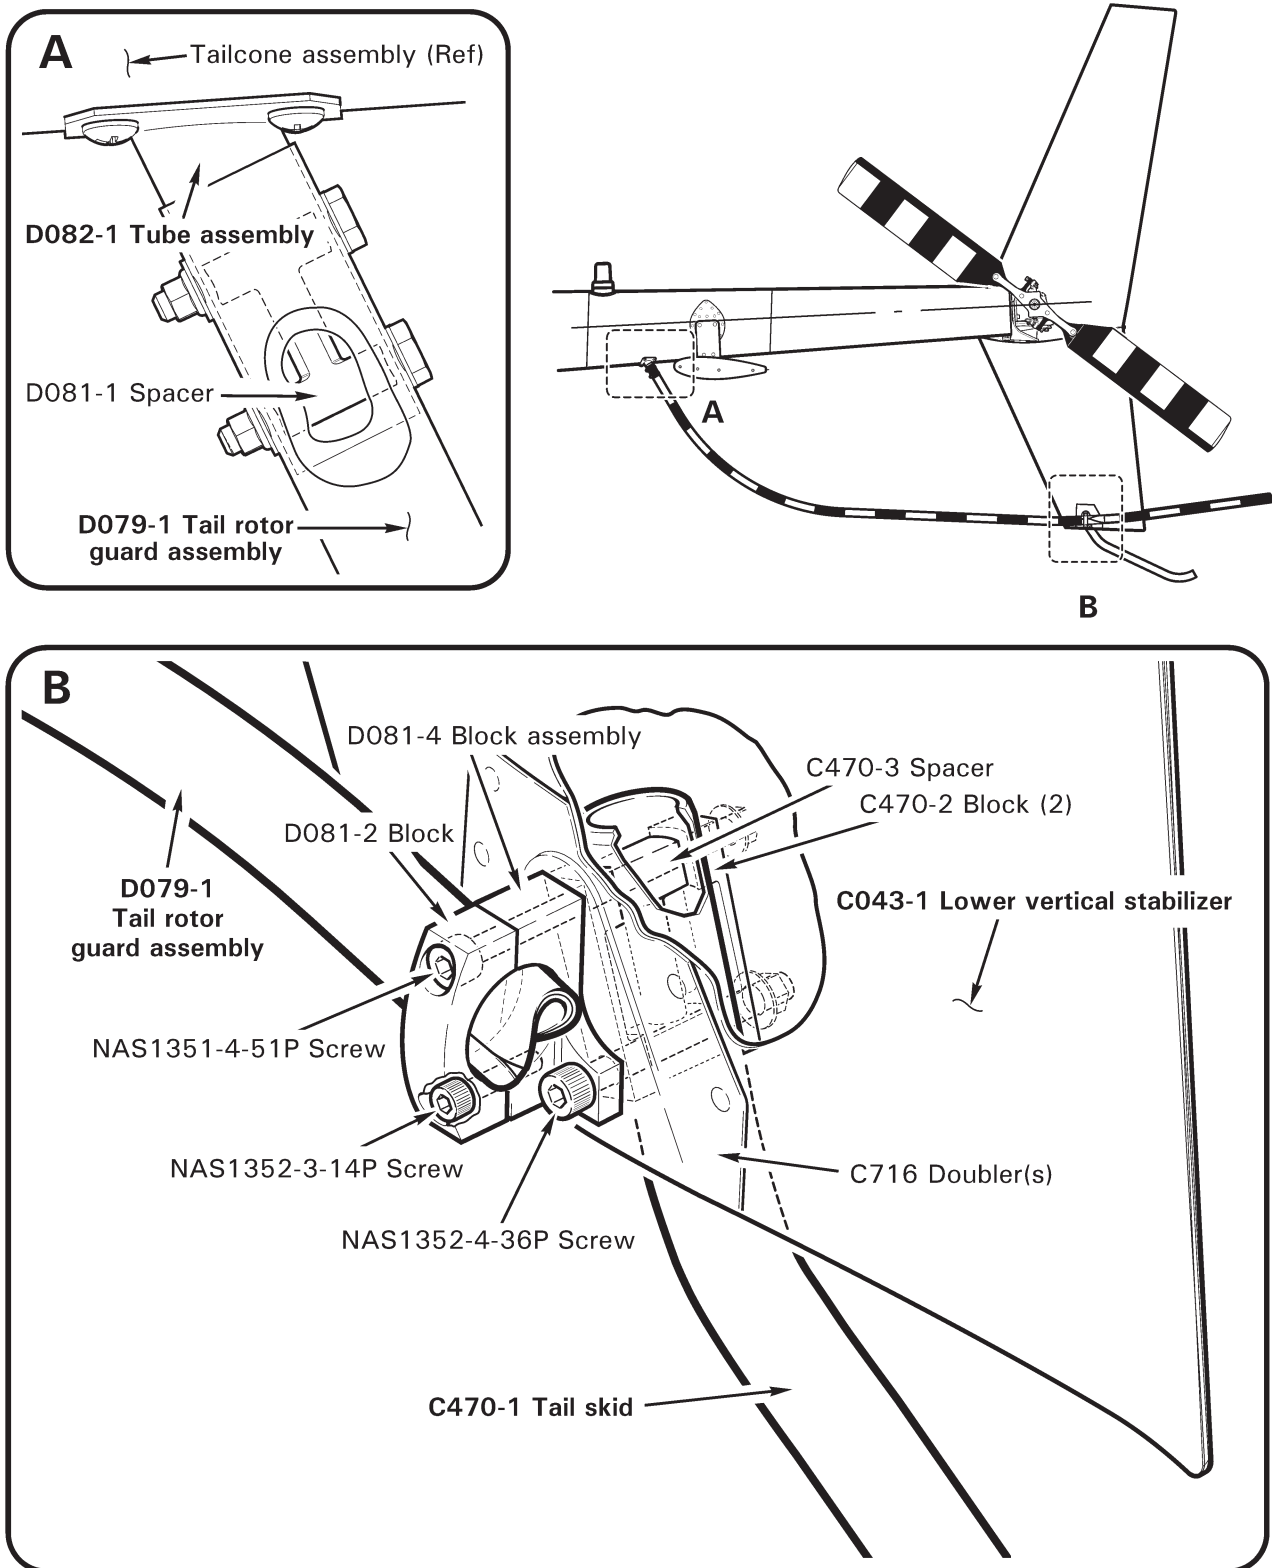

FIGURE 4-5 TAIL ROTOR GUARD ASSEMBLY
1. Refer to Figure 4-5. Loosen two (forward) fasteners securing D081-2 block and D079-1 tail rotor guard assembly to C043-1 lower vertical stabilizer.
1. Refer to Figure 4-5. Loosen two (forward) fasteners securing D081-2 block to C043-1 lower vertical stabilizer, if not previously accomplished. Insert D079-1 tail rotor guard assembly aft through blocks.